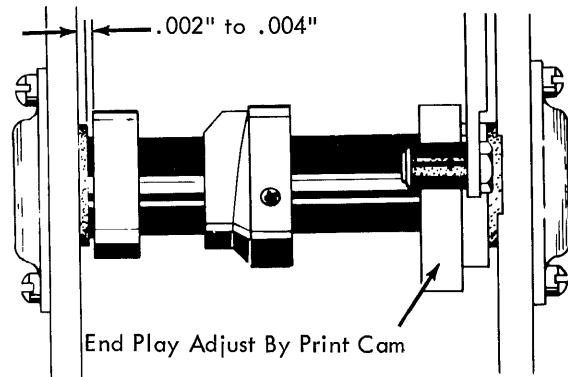

FIGURE 99. Print Sleeve End Play
8. Print Sleeve End Play - Adjust the print sleeve end play to be .002" to .004". The end play is controlled by the print cam on the right hand end of the sleeve. The adjustment should not be gained with the ribbon lift cam because its set screw tightens down into a dimple in the print sleeve fixing the position of the cam (Fig. 99).